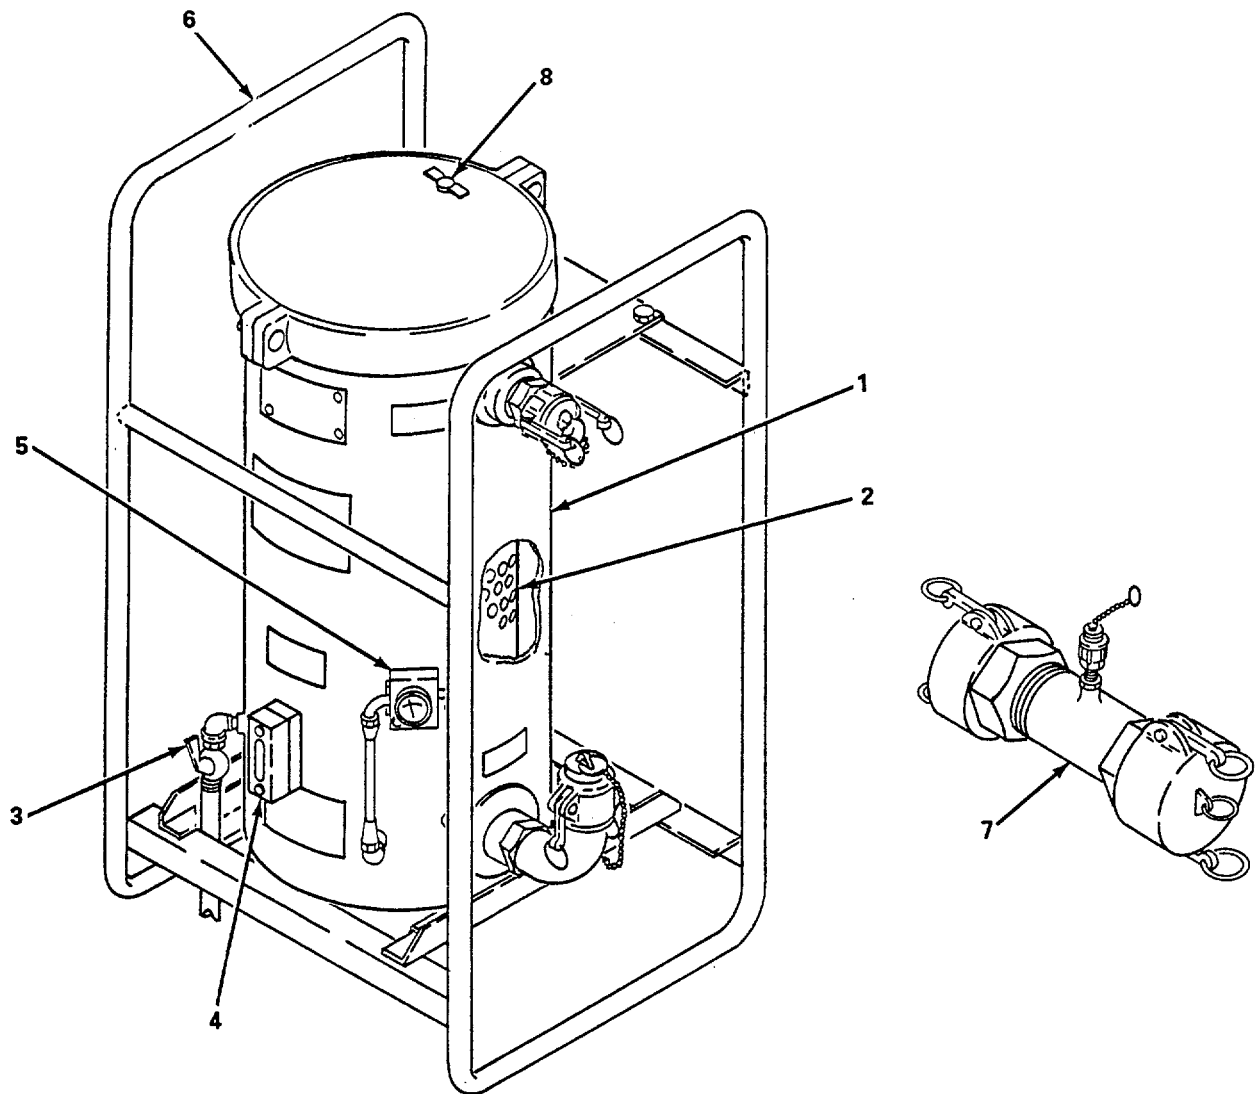

Figure 1-2. Location and Description of Major Components.
- (1) Highly portable.
- (2) All weather operational.
- (3) Manual water drain valve.
- (4) 50 GPM (189 LPM) rating.
**1-8. Location and Description of Major Components.** (Figure 1-2)